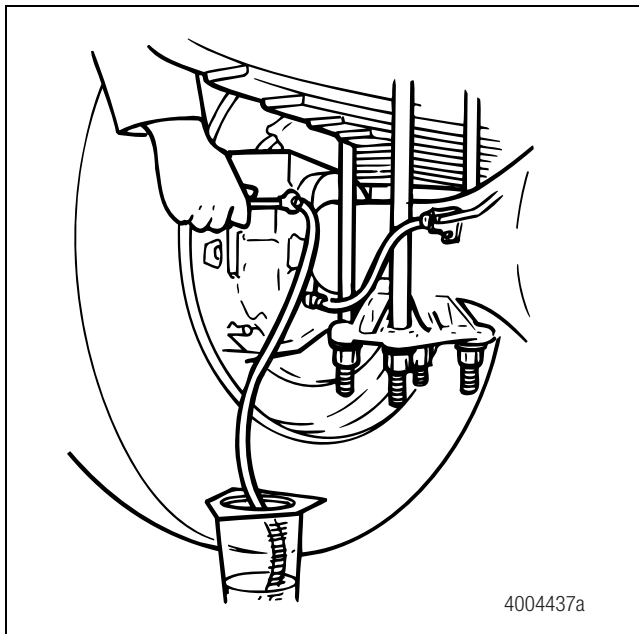

Figure 4.62
- C. Use a wrench to open the bleeder fitting screw. Figure 4.62.